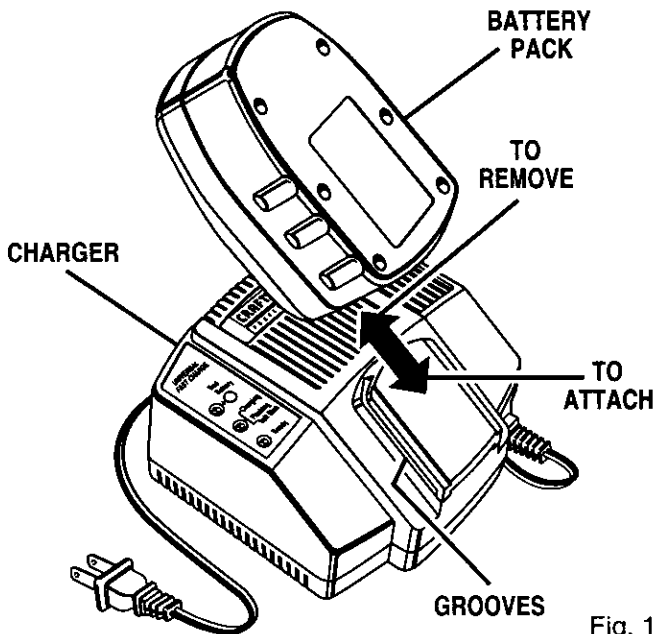

Fig. 10
- Attach battery pack to charger by aligning raised ribs on battery pack with grooves in charger, then slide battery back onto charger. *See Figure 10.*